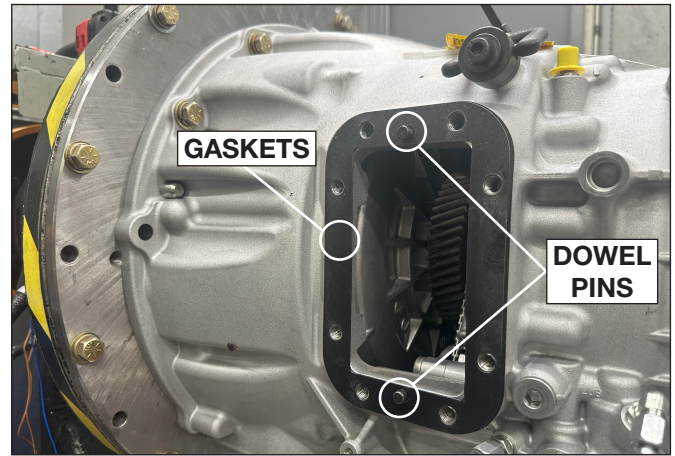

Figure 5
- c. Place dowel pins in the transmission mounting face dowel holes. The holes are located at 6:00 and 12:00 (**Fig. 5**).
- d. Place the two provided gaskets (.010" gasket and .020" gasket) over the dowel pins. (**Fig. 5**).